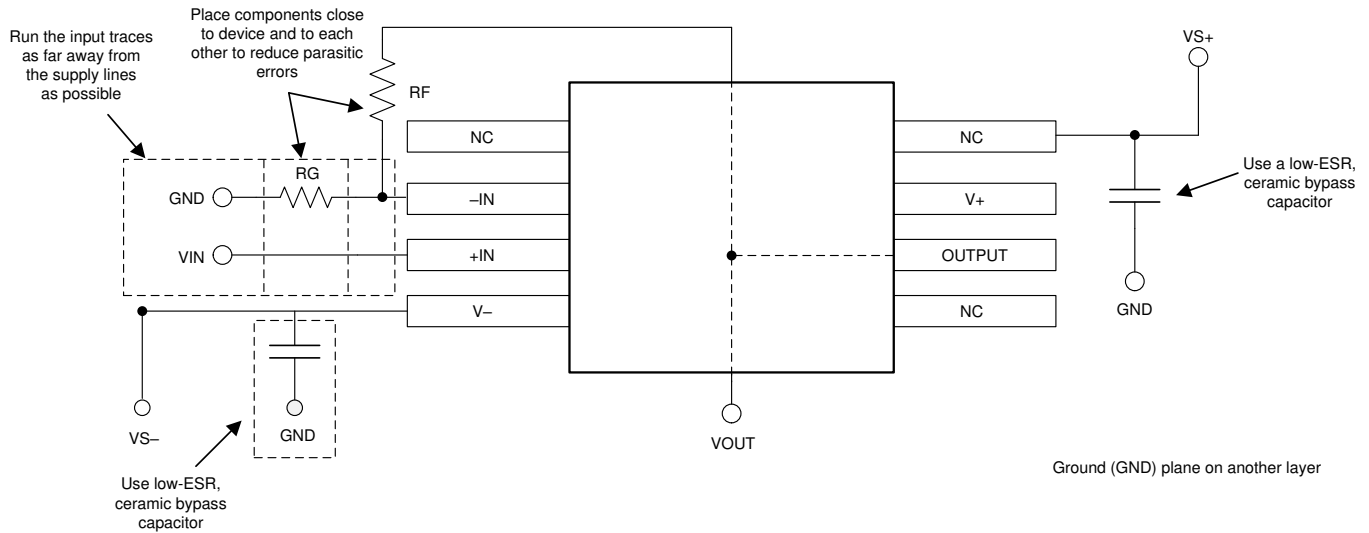

Figure 62. Operational Amplifier Board Layout for Noninverting Configuration
- Place the external components as close to the device as possible. As illustrated in Figure 62, keeping R_F and R_G close to the inverting input minimizes parasitic capacitance.